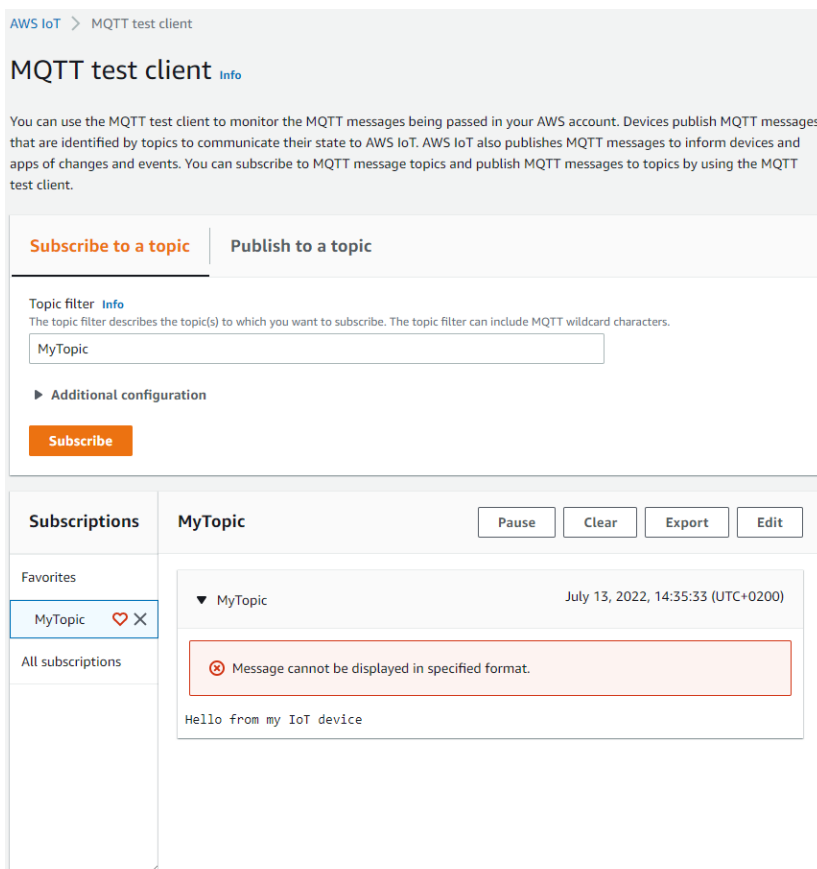

Figure 3: MQTT test client in AWS IoT console
3. Check that the message “Hello from my IoT device” is now displayed on the AWS IoT console under the topic “MyTopic”, as shown in Figure 3.